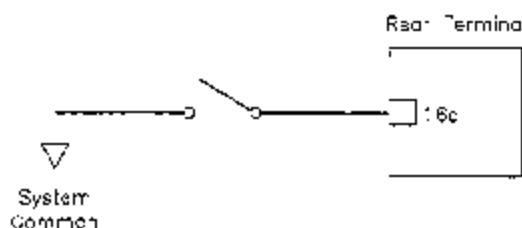

Figure 9
Figure 9 is a block diagram that shows the switch connections for the Card Test feature.
- The Card Test input consists of a single termination for remote testing of the Model 4802's functions. For detailed information on the Card Test, refer to figure 9 on page 10 of this manual.
The Card Test Input is provided so that the user can access the Card Test feature remotely. One end of a normally open SPST switch is connected to this termination and the other end is connected to system common (see figure 9 on page 10).